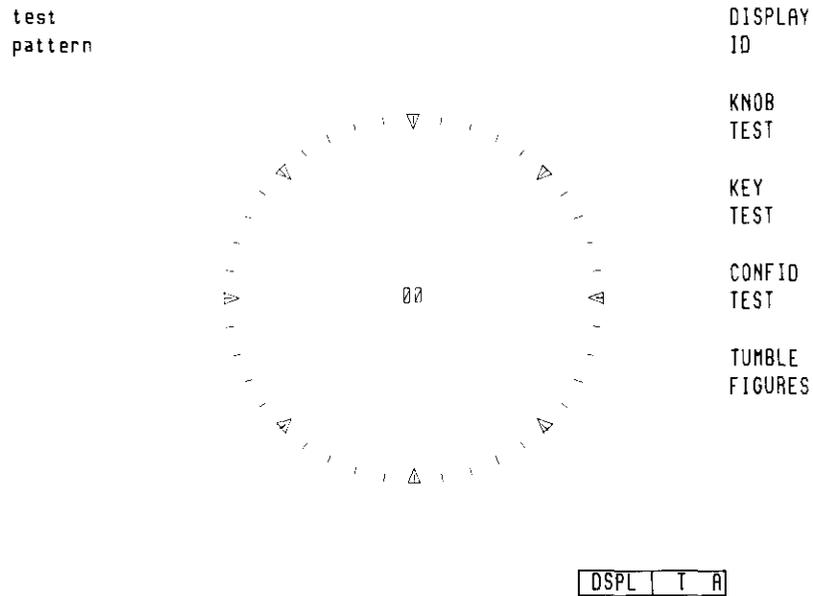

Figure 5-13. Knob Test Display
2. Press *display tests*, then *KNOB TEST*. The CRT display should be similar to the one shown in Figure 5-13. Note that the Knob Test value is 00.